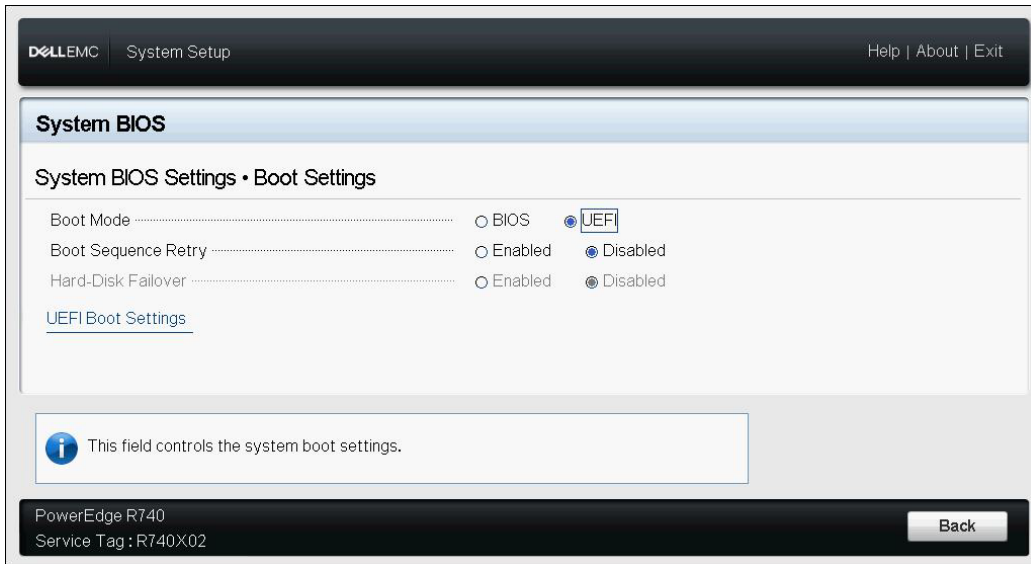

Figure 6-1. System Setup: Boot Settings
3. For the **Boot Mode** setting, select **UEFI** (see Figure 6-1).